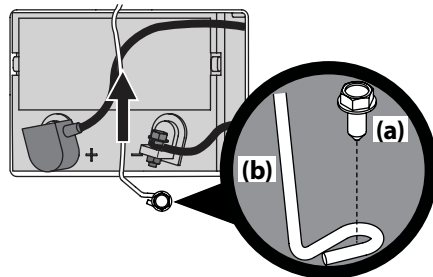

Figure 4-9
- Remove the hex washer screw (a) securing the battery hold-down bracket (b) to the frame. Then flip the battery hold-down bracket (b) up to free the battery. See Figure 4-9.